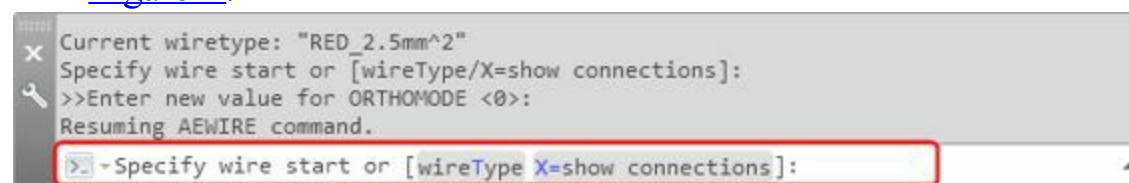

Figure-2. Command prompt for wire insertion
- Click on the **Wire** tool from the **Wire** drop-down. The command prompt will be displayed as shown in Figure-2.